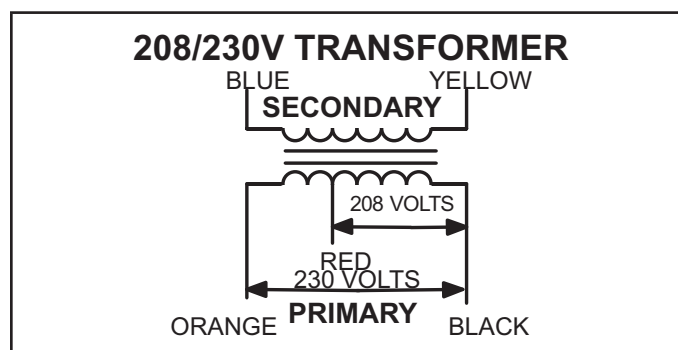

FIGURE 3
All use a single line voltage to 24VAC transformer installed in the control box. The transformer supplies power to control circuits in the unit. The transformer is rated at 70VA and is protected by a 3.5 amp circuit breaker (CB8). The 208/230 (Y) voltage transformers use two primary voltage taps as shown in FIGURE 3, while 460 (G) and 575 (J) voltage transformers use a single primary voltage tap.
T43 is a single line voltage to 24VAC and ties into T1. See unit diagram. T43 is mounted in the control box. The transformer supplies power to control circuits (through T1). The 208/230 (Y) voltage transformers use primary voltage taps as shown in FIGURE 3, while 460 (G) and 575 (J) voltage transformers use a single primary voltage tap.